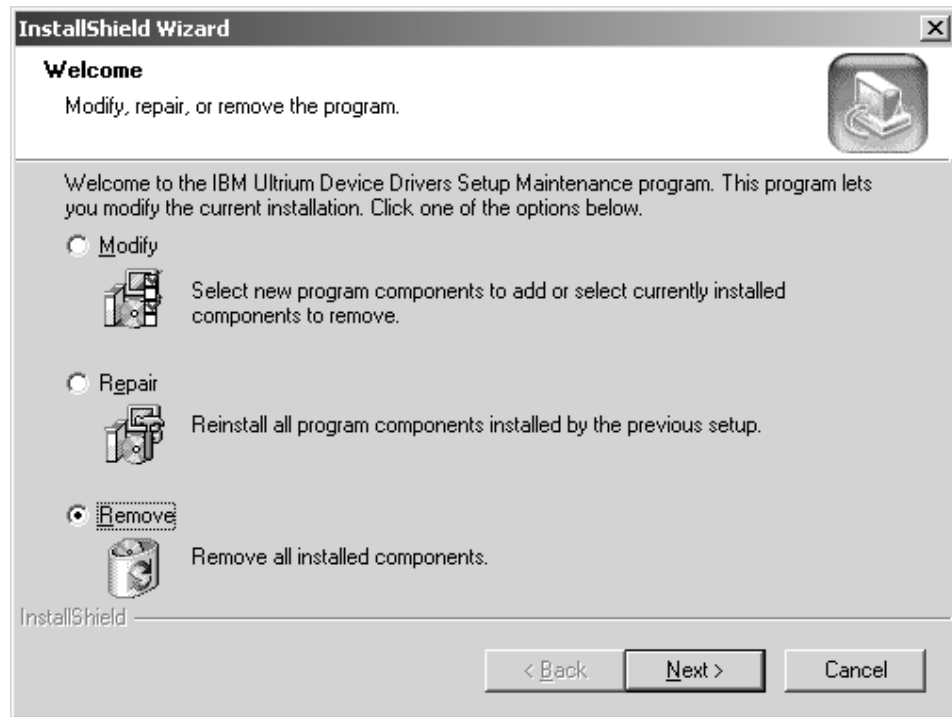

Figure 24. Drive Removal Menu
8. Select the **Remove** option, then follow the *InstallShield Wizard* to uninstall the drivers. See Figure 24 on page 208.